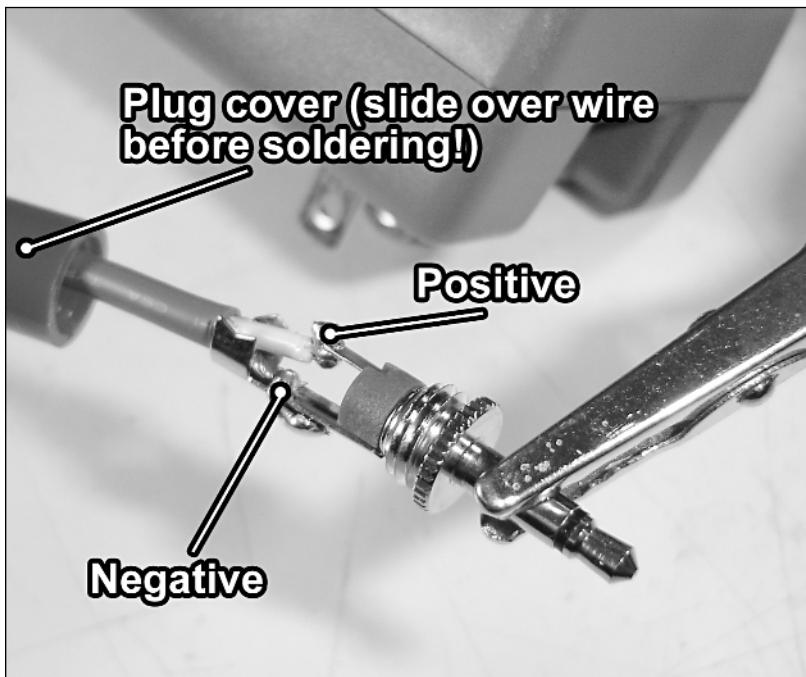

FIGURE 13-33: The wall adapter's new plug.
2. Solder the new 1/8" phono plug (Radio Shack catalog #274-287 on the materials list) to the wire. Connect the inside wire of the adapter to the inner lead on the plug, and the outer wires to the outer lead. The connection should look like shown in Figure 13-33.